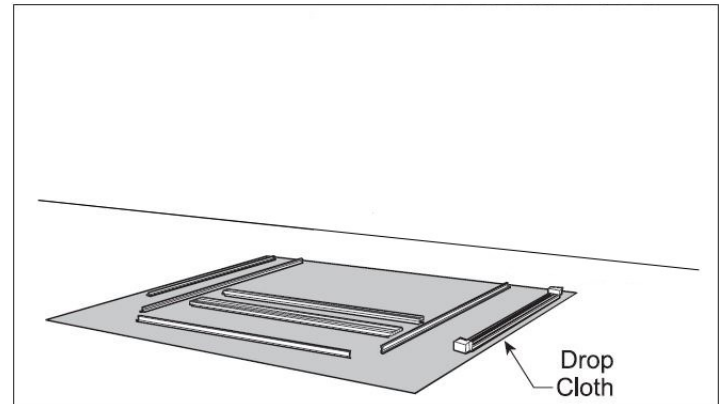

Figure 2
2. Lay the parts out on a cleared area face down. Be sure to place a drop cloth over the floor to prevent scratching trim kit and/or floor. (Figure 2.)